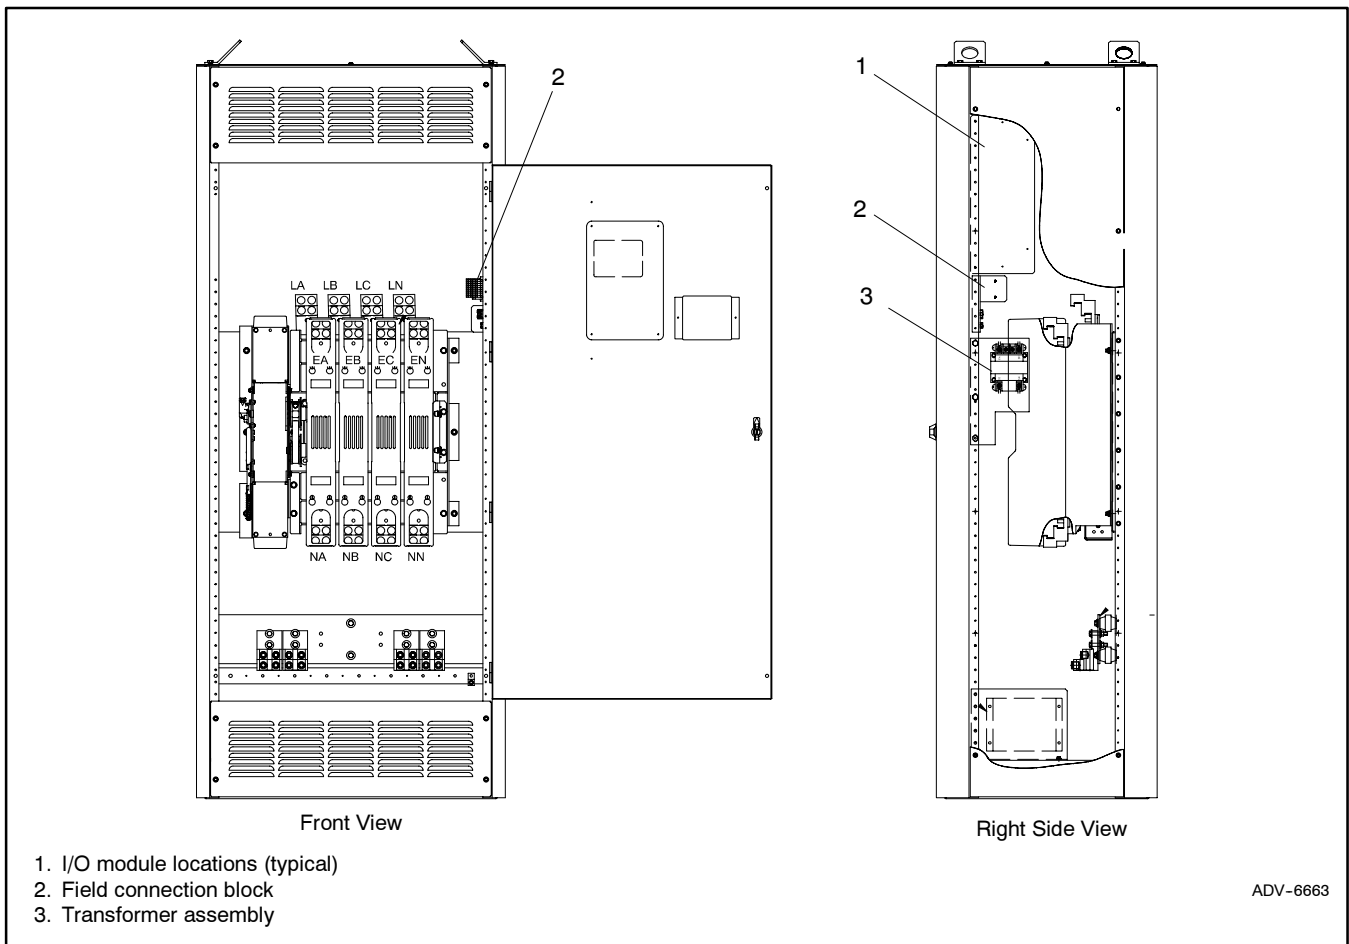

Figure 5 Transformer Assembly Location, Large Framework-Style Enclosures
3.4.3 Framework enclosures (1000-4000 amp open-transition and all bypass/isolation switches): See Figure 5. Mount the transformer assembly onto the enclosure's corner support below the field connection block. Locate the transformer assembly so that the wiring harness can be connected to the transformer, the controller, and the contactor harness. Secure the assembly with two X-67-113 screws.